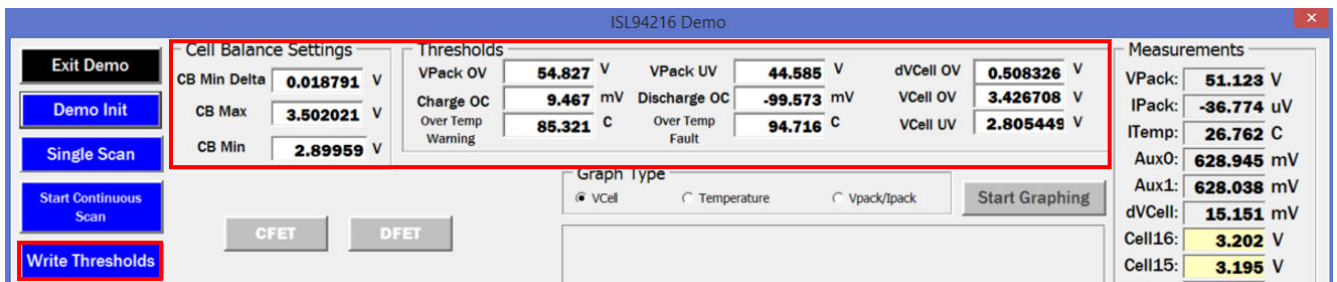

Figure 67. Demo Thresholds
**Demo Init** sets some of the key thresholds in the ISL94216 to values more useful than that of the default values, but these values might need to be modified further. To modify any of the available settings, simply change the value in the boxes highlighted in Figure 67, then press the **Write Thresholds** button. A single scan can be used to confirm the settings were written correctly.